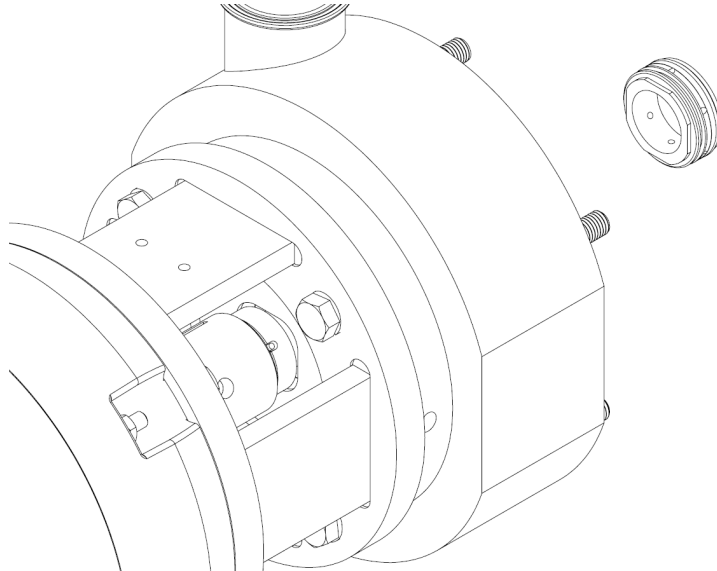

Figure 12
4. Note the square end of the stationary seal. Insert this end in first and slide the stationary seal over the shaft and into the casing as shown in Figure 12.